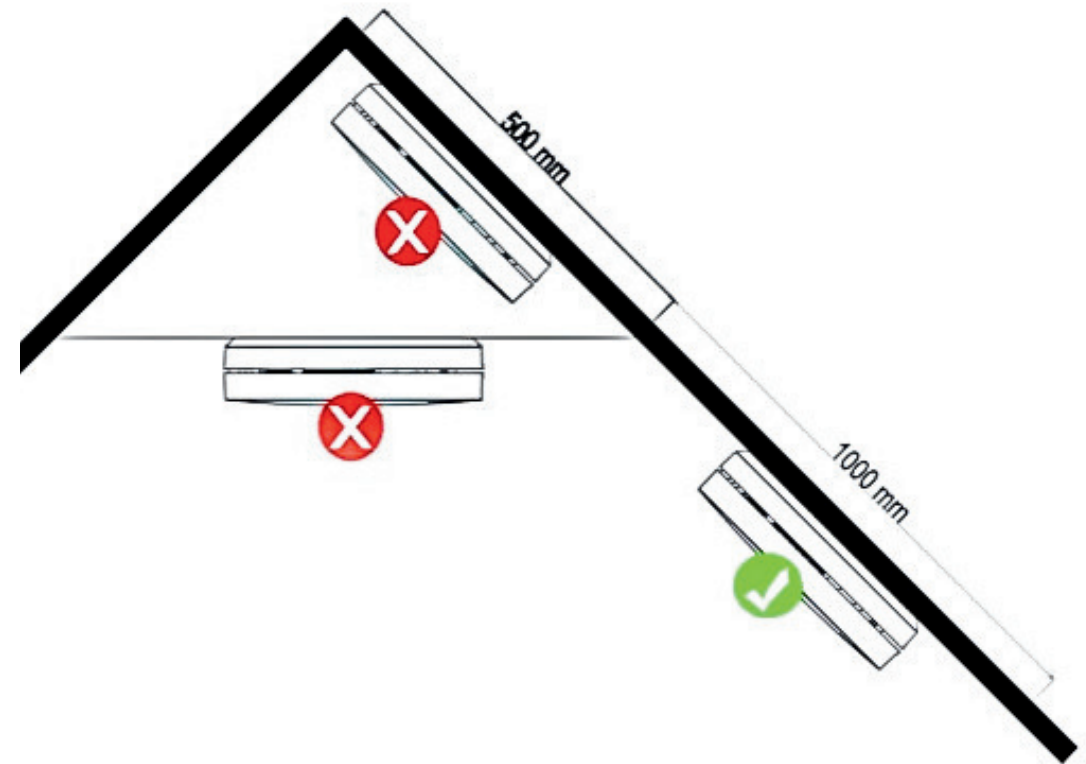

Figure 2: Recommended mounting locations
- Check figure 2 and 3 for correct mounting locations. Most EU countries require smoke detectors on all floors and escape routes.